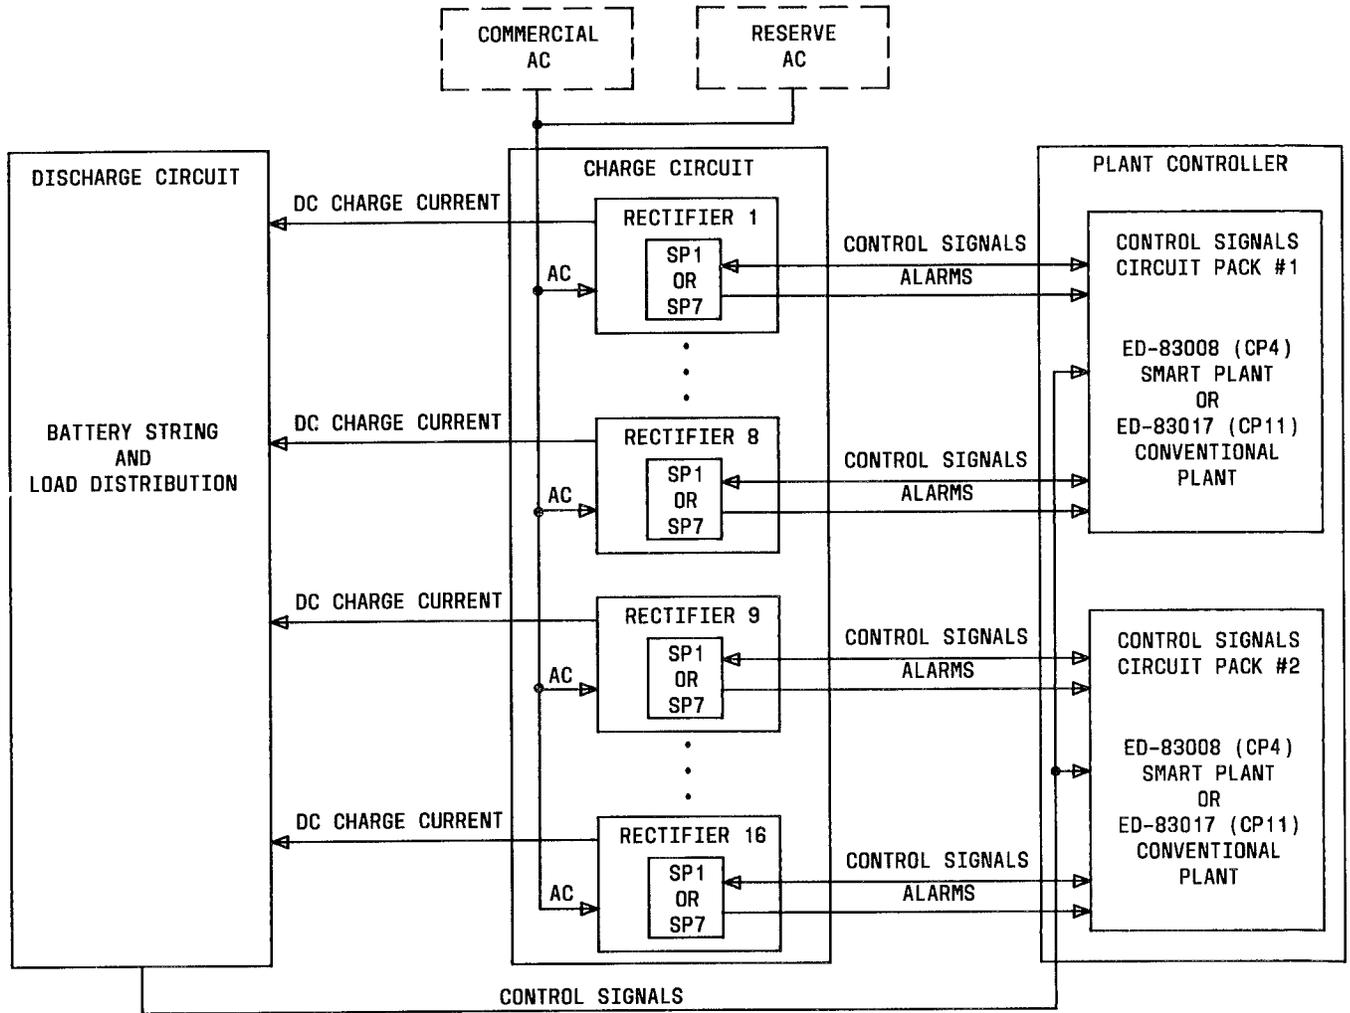

Fig. 5—Rectifier Interface Block Diagram
3.01 The function of the rectifiers is to power loads and charge and float storage batteries automatically by providing regulated dc power from an ac power service. The rectifiers can provide either positive or negative direct current voltage. Rectifier power and control signal flow are given in Fig. 5.